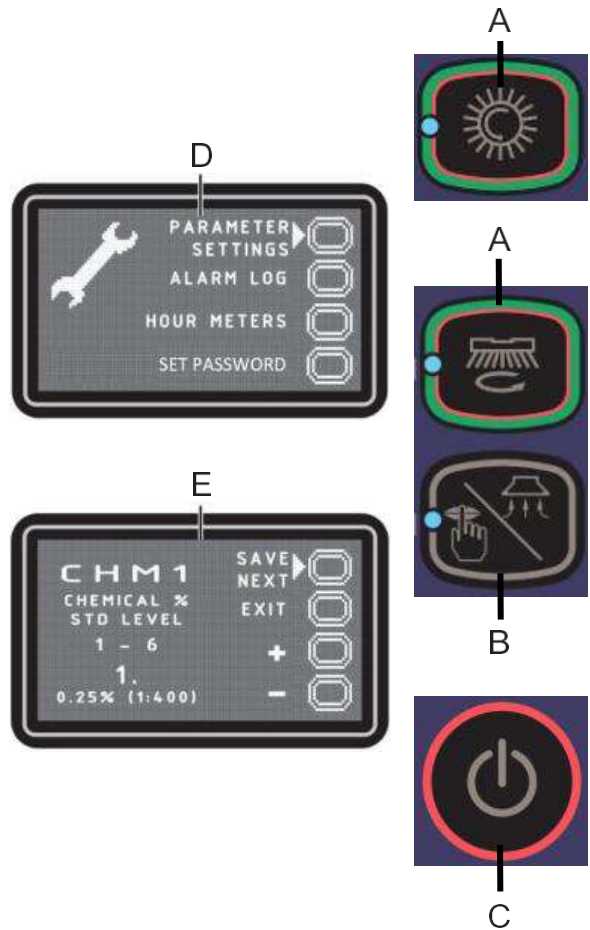

Figure 7
### Main Screen (D, Fig. 7)
### Machine Settings Screen (E, Fig. 7)
To return to the main screen (D, Fig. 7), press push-button (A) to move the arrow to "EXIT" and press the push-button (B).
To return to the main screen (D, Fig. 7), press push-button (B).
2. Press the push-button (B) to save and return to the main screen (D, Fig. 7).